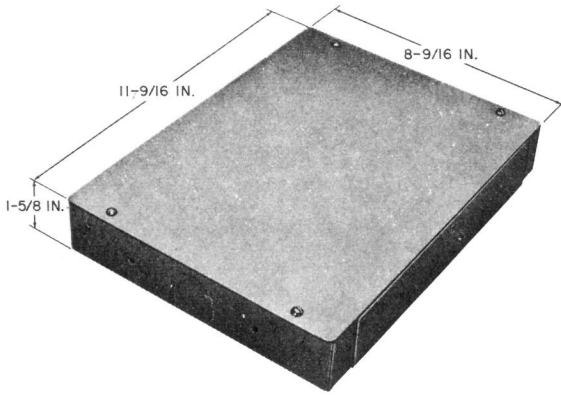

Fig. 2—113B Apparatus Box, MD
113B (MD) Apparatus Box (Fig. 2).